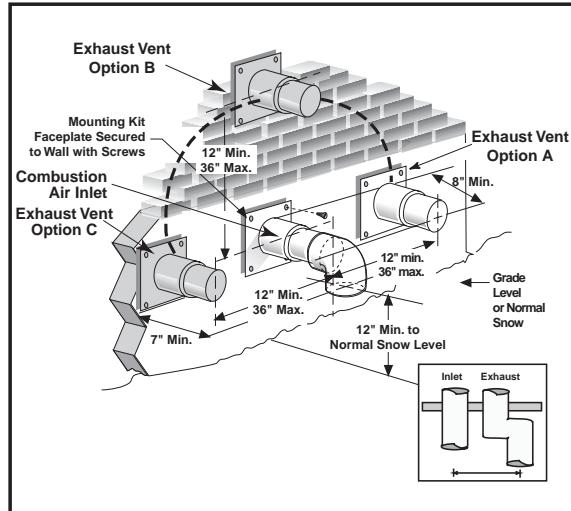

Figure 18. Exhaust and Combustion Air Pipe Clearances
Vent and combustion air intake terminations must be as shown in Figure 18.
Ensure that the combustion air vent and the exhaust vent are configured as shown in Fig. 18. Improper vent termination can cause recirculation of the flue gases. This may result in furnace vibration. In severe cases, the furnace will cycle, due to the intermittent contact between the flame and the flame sensor. If you note these oscillations occurring, check the vent configuration. Make sure that the exhaust vent does not have a 90 degree termination.
4. Insure the combustion air inlet pipe has a 90 degree termination elbow, and is pointing downward as shown in Figures 18 & 19.